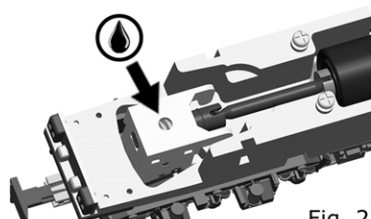

Fig. 2
- Lubricación: Después de un prolongado uso, es aconsejable engrasar con unas pocas gotas de lubricante la caja de engranajes. (Fig.2)
- Lubrication: After a lot hours working, the worm should be cleaned and some lubrication may be necessary. Disassemble the locomotive body and apply few drops of oils to the worm. (Fig.2)